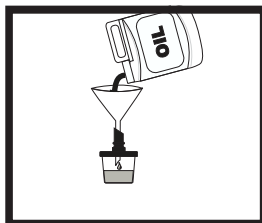

Fig. 3
9. Using a funnel, fill the reservoir (Fig. 3).